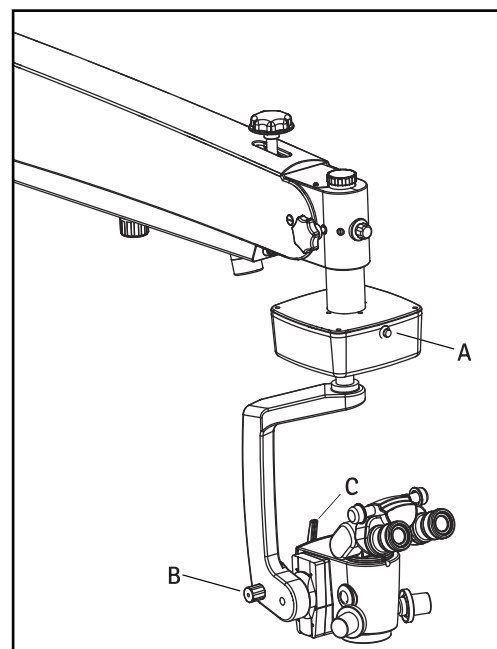

Fig. 19
The XY coupling is provided with a recentering mechanism. Refer fig 19, Use the reset button (A) to move the XY coupling to the center position.
Referring fig 19, Knob “B” is to tilt Angle of illumination.